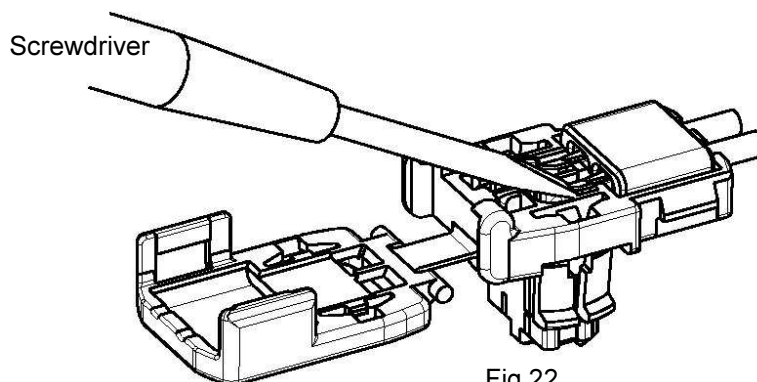

Fig.22
- ①Put a screwdriver (1.0mm) to the place of Fig.22, and pull back both contacts.